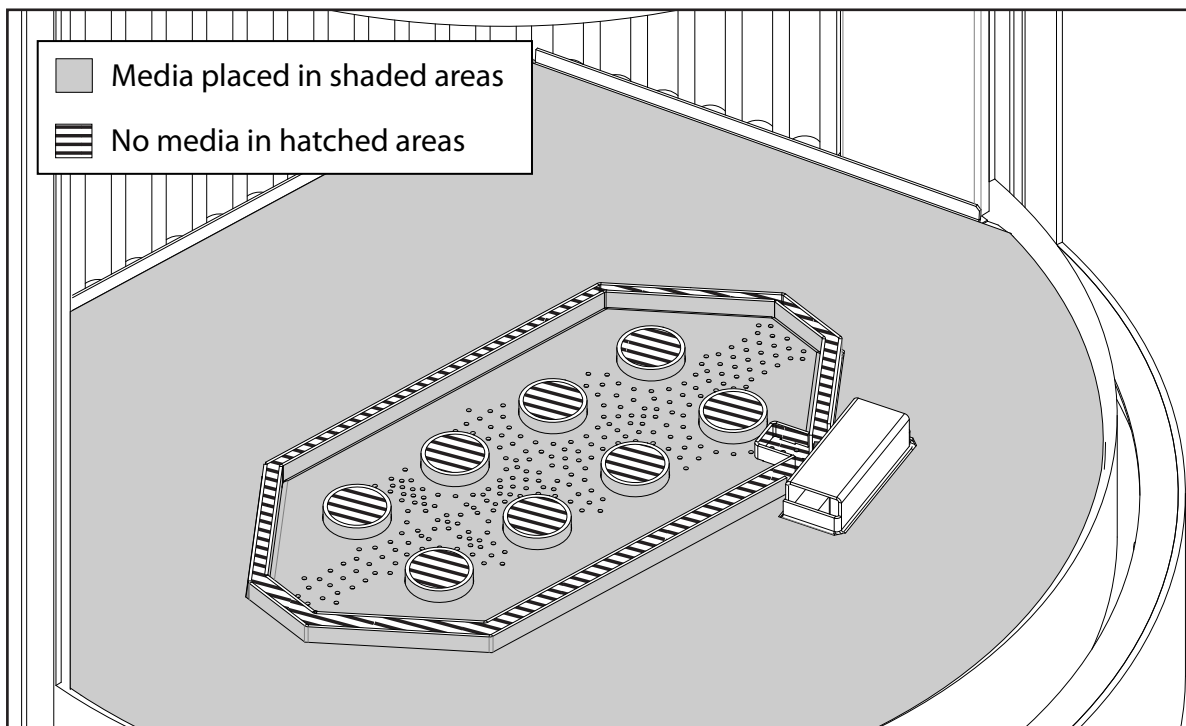

Figure 102: Media Installation Area
***Note:** Ensure that the areas highlighted in Figure 102 are not covered by media. These areas must be clear to allow the proper flow of air. Failure to do so will cause the fireplace to not burn properly.